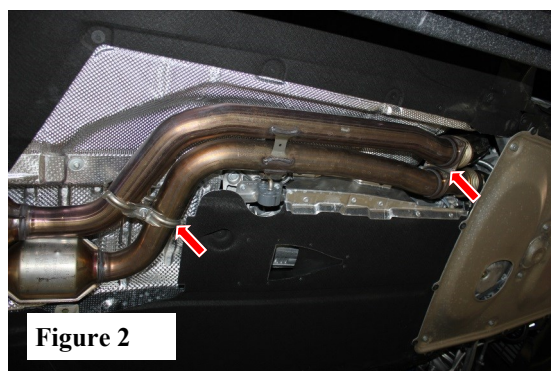

Figure 2
4. Support exhaust system with muffler stands. Carefully remove metal hangers from vehicle using socket wrenches. Remove exhaust system from vehicle. **Keep factory hardware for reinstallation.** (See Fig. 2)